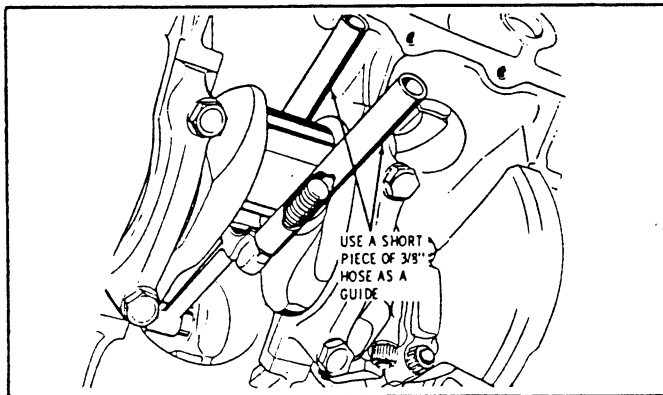

Fig. 35 Connecting Rod Bolt Guide
Fig. 35 and 36
5. Install Guide Hose on Connecting Rod Bolts (Fig. 35)